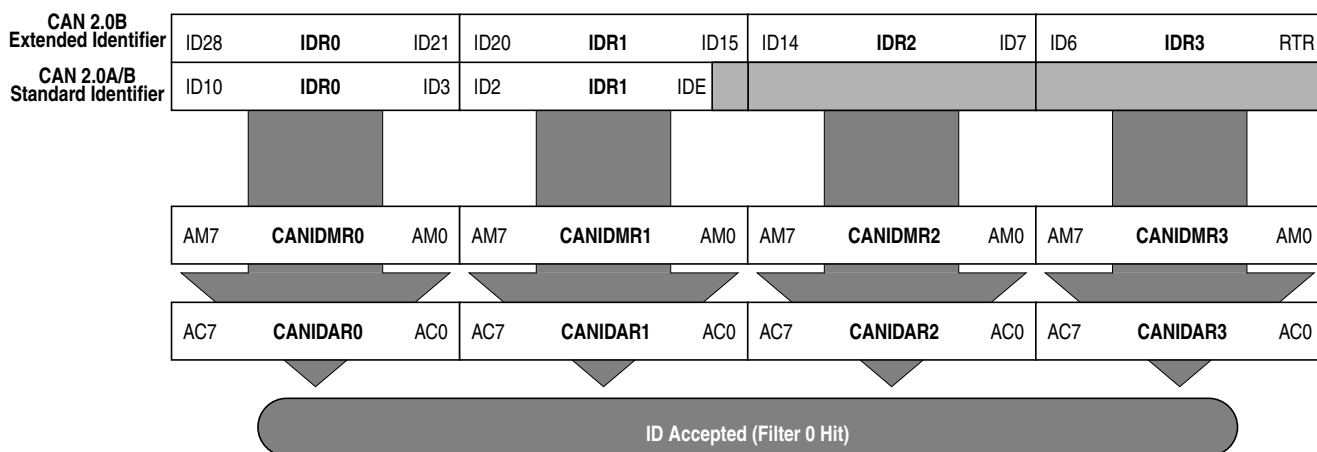

Figure 8-40. 32-bit Maskable Identifier Acceptance Filter
- The 11 bits of the standard identifier plus the RTR and IDE bits of the CAN 2.0A/B messages1. This mode implements two filters for a full length CAN 2.0B compliant extended identifier. Figure 8-40 shows how the first 32-bit filter bank (CANIDAR0–CANIDAR3, CANIDMR0–CANIDMR3) produces a filter 0 hit. Similarly, the second filter bank (CANIDAR4–CANIDAR7, CANIDMR4–CANIDMR7) produces a filter 1 hit.